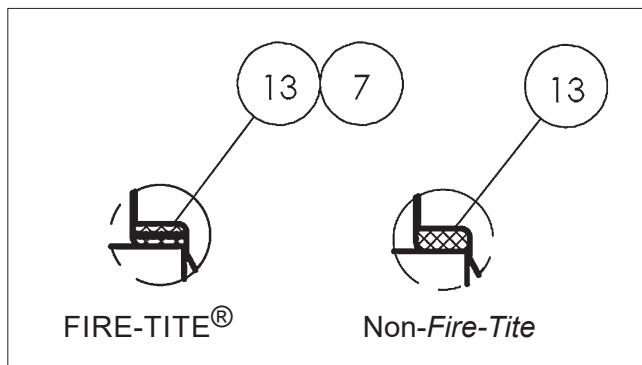

Figure 6. Proper Seat Orientation
7. Insert a trunnion bearing (92) into each trunnion plate counterbore and lightly lubricate bearing I.D.'s with a lubricant compatible with the media flowing through the valve.
8. Place a bearing spacer (91) over each ball trunnion.
9. Fit a trunnion plate over each ball trunnion until the plate rests against the bearing spacer (91). This operation must be performed with care and without excessive force or the bearing will be damaged. It may be necessary to tap the plate on with a plastic mallet.
10. Align the trunnion plates (89) relative to the ball port in the "closed" position. This will approximate the proper position when the ball and trunnions are lowered into the body.
11. With the ball (3) in the "closed" position, lower the ball/trunnion plate subassembly partially into the body. **NOTE:** This procedure is critical and careful attention is important! The outside diameter of the trunnion plates must pilot in the body counterbore. Carefully lower the subassembly until a trunnion plate enters the counterbore (usually one trunnion plate will enter the counterbore and the other will be out of position). Use a plastic mallet or a block of wood to rotate the second trunnion into position. Once the trunnion plates are aligned, lower the subassembly until the trunnion plates are seated in the bottom of the counterbore.
12. Slide the one thrust bearings (70), the secondary stem seal (71), and the second thrust bearings (70) over the stem (5). (See **Figure 6** for proper orientation).